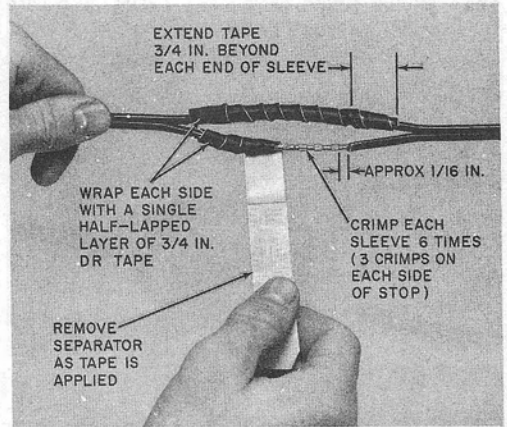

Fig. 6—Applying DR Tape After Crimping Sleeves
- (7) Crimp each sleeve six times (approximately 1/16 inch intervals) and apply DR tape as shown in Fig. 6.